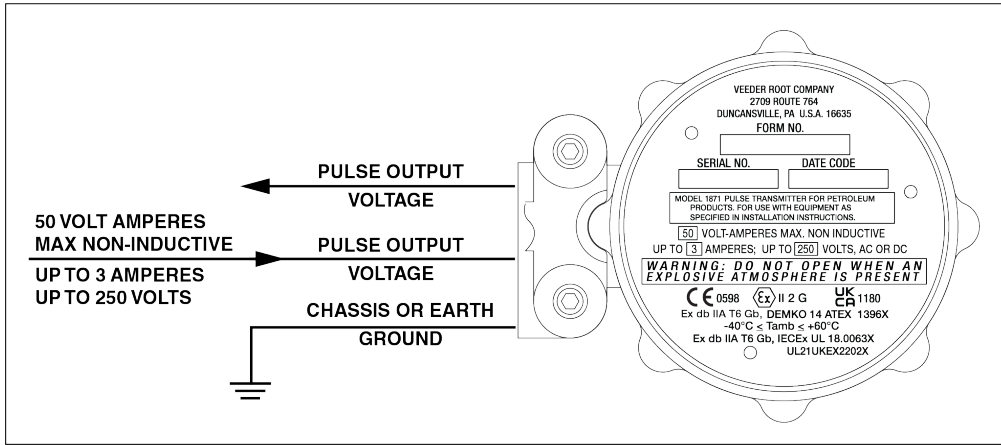

Figure 3. Typical Output / Voltage Connections
- C. **WIRING.** See figure 3 for output and operating voltage connections.